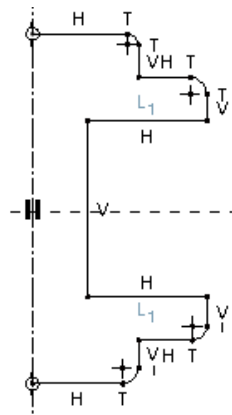

Figure 3-67 Sketch for the revolved feature with the weak dimensions turned off for clarity
1. Draw a center line and then draw the sketch, as shown in Figure 3-67. The center line is the axis of revolution. To fillet the corners, choose the **Create a circular fillet between two entities** button from the **Right Toolchest**.